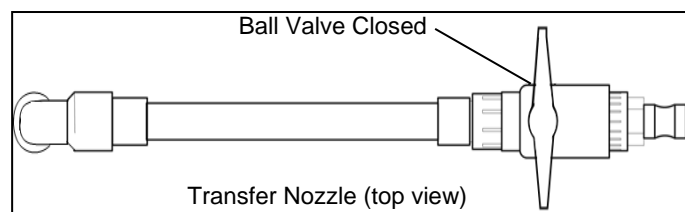

Figure 11
3. Hold the Transfer Nozzle and make sure the Ball Valve on the Transfer Nozzle is CLOSED (Figure 11).